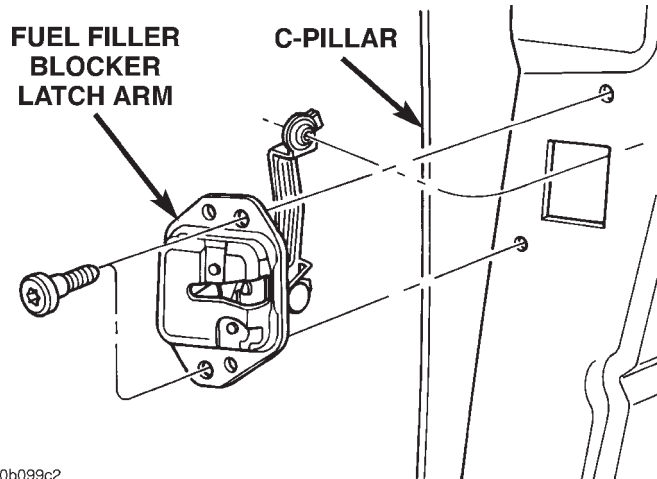

Fig. 36 FUEL FILL DOOR BLOCKER LATCH
- (4) Remove screws holding fuel fill blocker latch to C-pillar (Fig. 36).
- (5) Remove fuel fill blocker latch from vehicle.